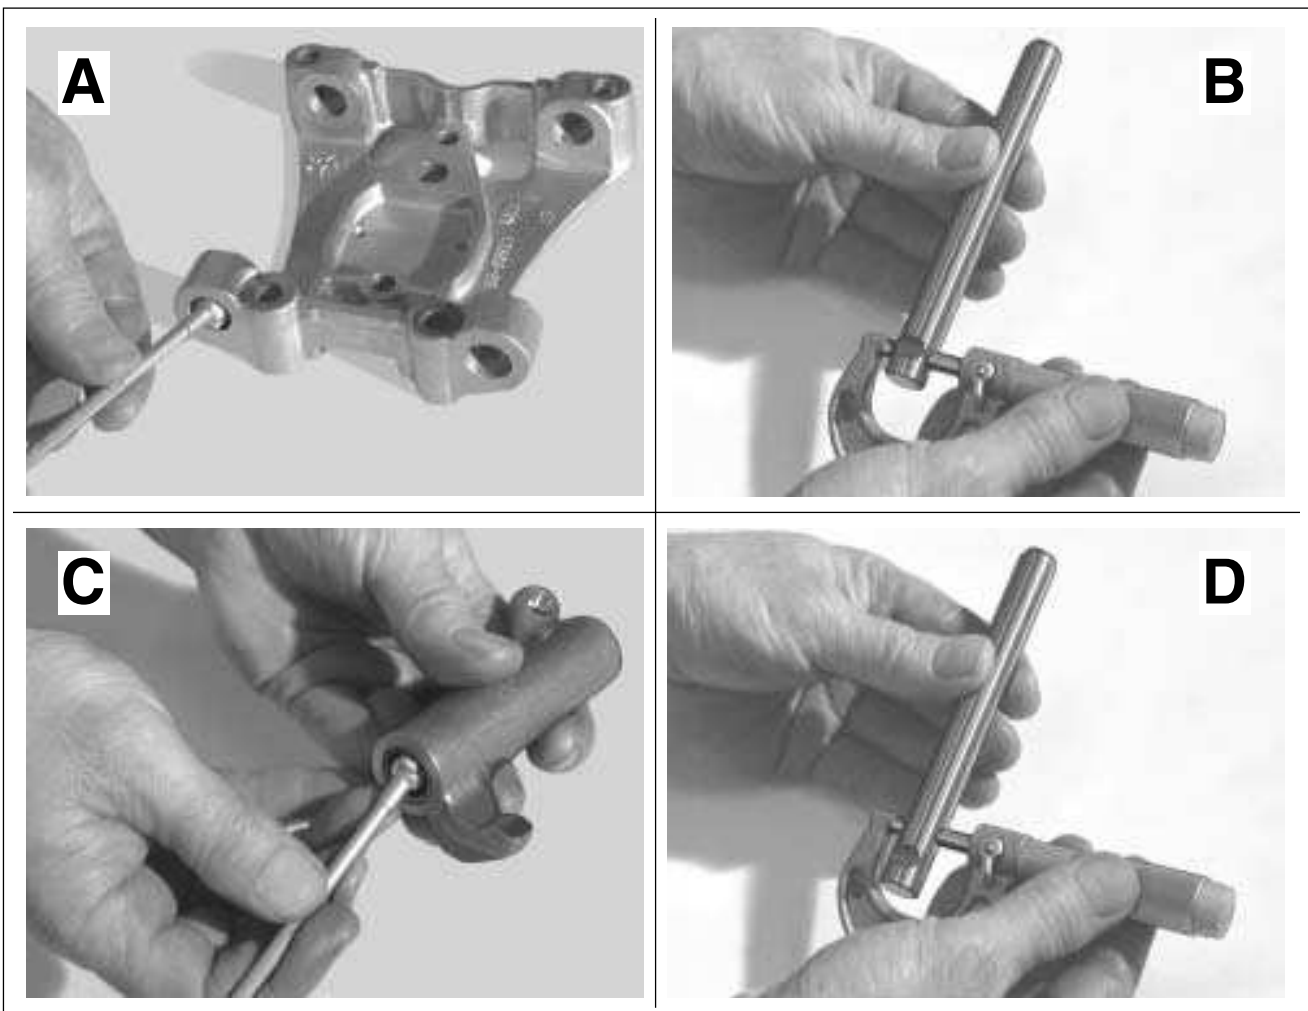

Figure 3-58. Measure Rocker Arm Assembly for Wear
5. Measure the inside diameter of the rocker arm support plate bore. See A of Figure 3-58. Measure the outside diameter of the rocker arm shaft where it fits in the bore. See B of Figure 3-58. Repeat the measurement on opposite side of support plate and shaft. Replace the shaft or support plate if any measurement equals or exceeds 0.0035 inch (0.089 mm).
6. Measure the inside diameter of the rocker arm bushing. See C of Figure 3-58. Measure the outside diameter of the rocker arm shaft where it rides in the bushing. See D of Figure 3-58. Repeat the measurement on opposite side of rocker arm and shaft. Replace the shaft or bushings if any measurement equals or exceeds 0.0035 inch (0.089 mm).